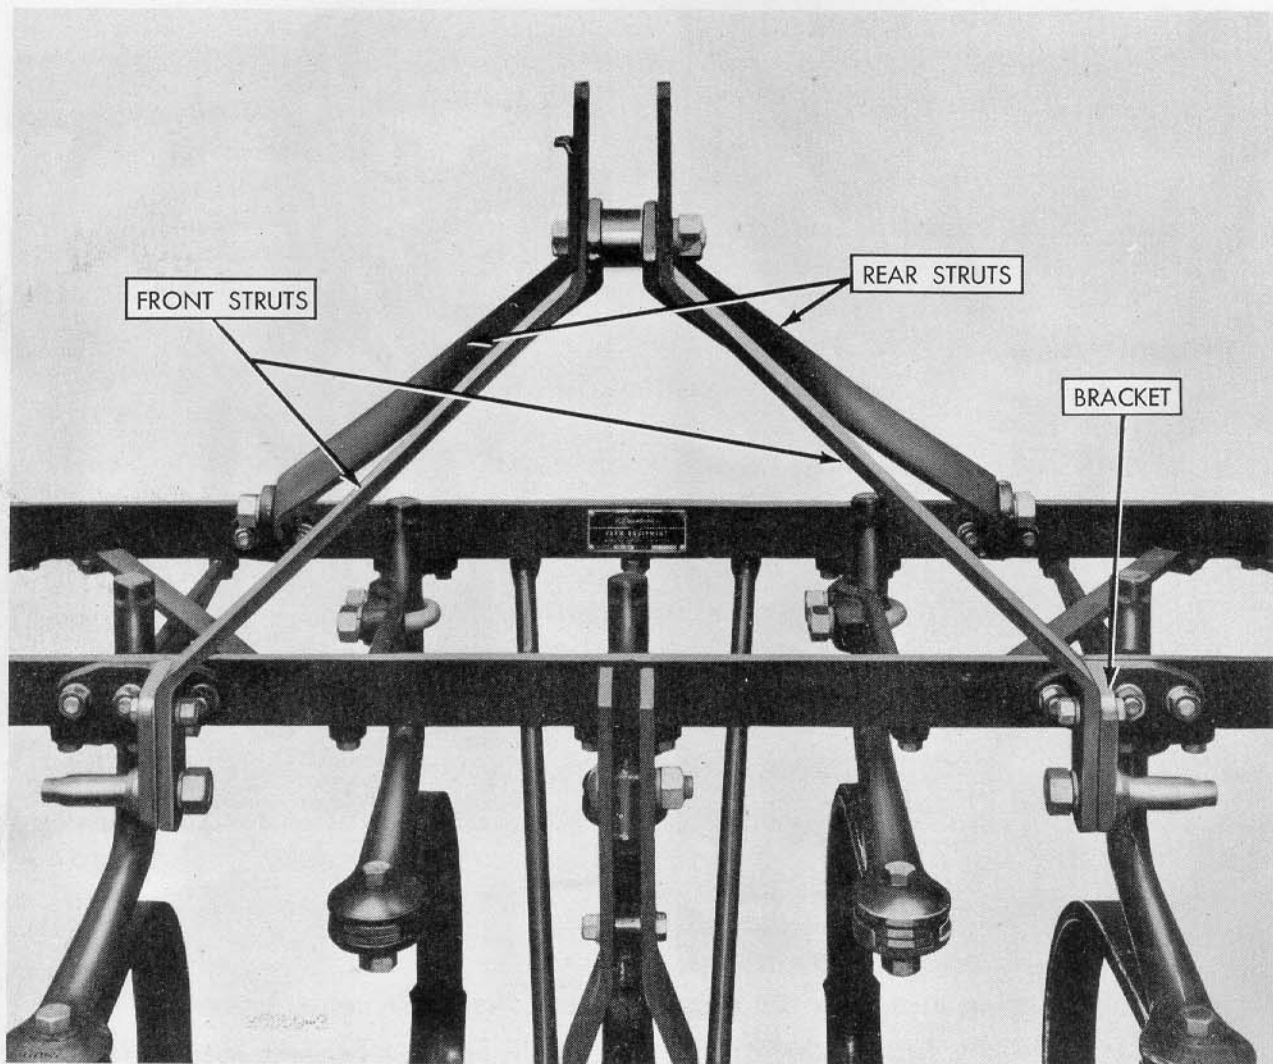

Figure 6
7. Attach the top link assembly as shown in Figure 6 using the bolts provided. Bolt the front struts to the brackets on the front tool bar. Insert the link pins through the bottom holes of the front struts and secure with nuts. Bolt the rear struts to the brackets attached to the rear tool bar. Securely tighten all nuts.